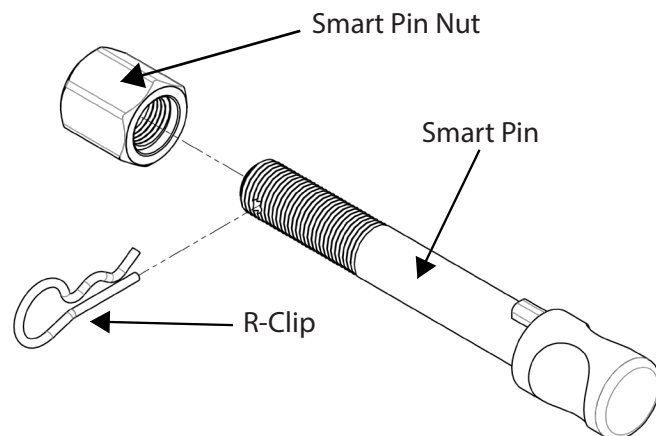

Fig 1. Smart Pin assembly
STEP 5 Install SMART PIN R CLIP through the hole on the SMART PIN (Fig. 1).